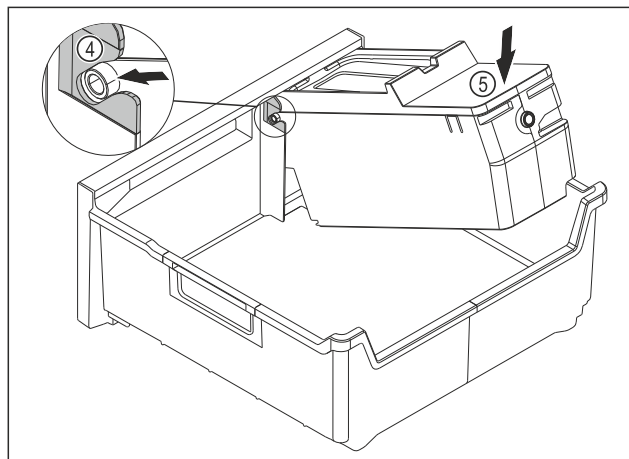

Fig. 92
- Installing the EasyTwist-Ice body: Push the axes for the EasyTwist-Ice body into the guides Fig. 92 (4).
- Press the EasyTwist-Ice body Fig. 92 (5) down at the back.